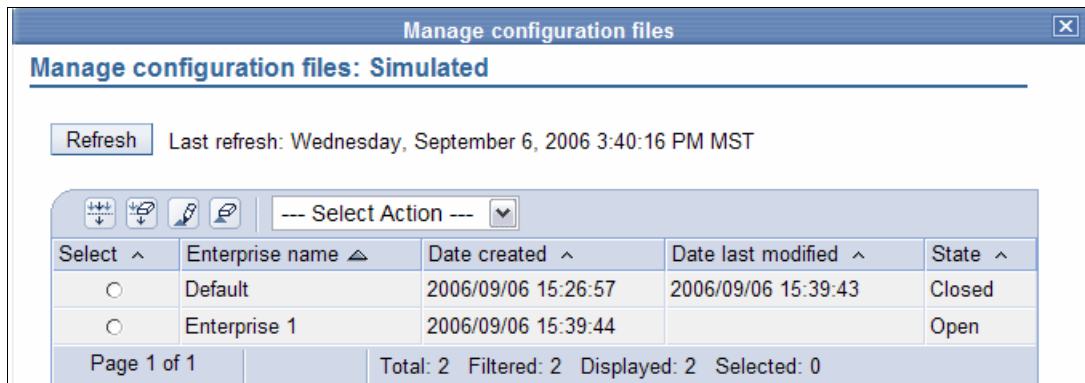

Figure 12-3 Enterprise1 configuration has been created
- We now have a new configuration file, as shown in Figure 12-3. The first configuration file created will be called Enterprise1, the second, Enterprise2, and so on. However, when you save the configuration file, you can name it anything you like (up to 16 characters in length).